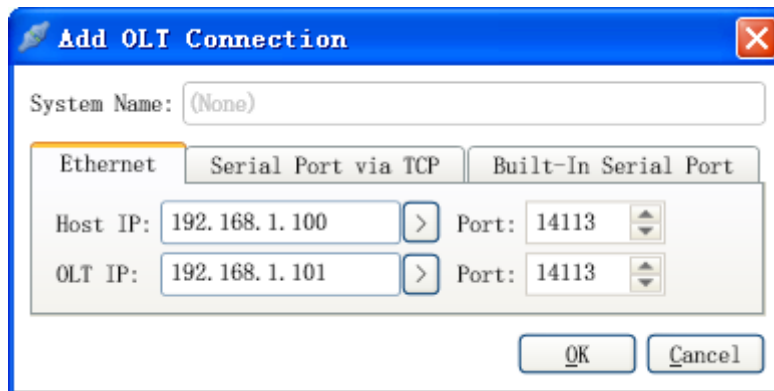

Figure 2-2 Add OLT Connection
- 2) Modify the IP address of the Host and OLT which shall be consistent with the actual IP address stored in the FLASH. Here, the Host IP is default 192.168.1.100 while the OLT IP is 192.168.1.101 shown in the Figure 2-2.